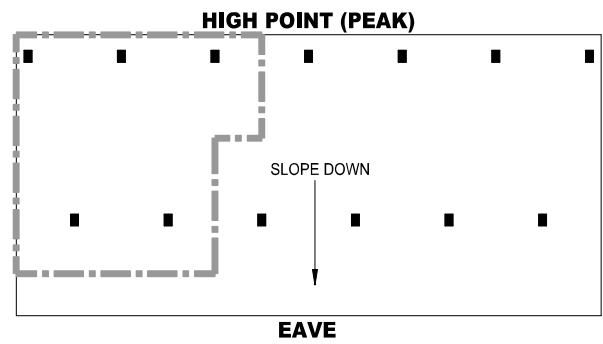

FIGURE 21B
- Calculation #1: Calculate the most hydraulically demanding 5 contiguous sprinklers consisting of 3 at the high point and 2 on the adjacent slope. See Figure 21B.